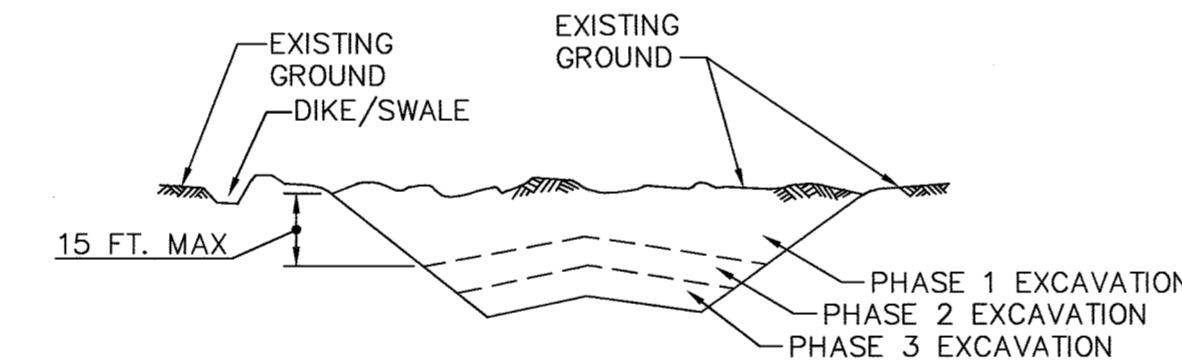

FIGURE B.1: INCREMENTAL STABILIZATION - CUT
- B. CONSTRUCTION SEQUENCE EXAMPLE (REFER TO FIGURE B.1):